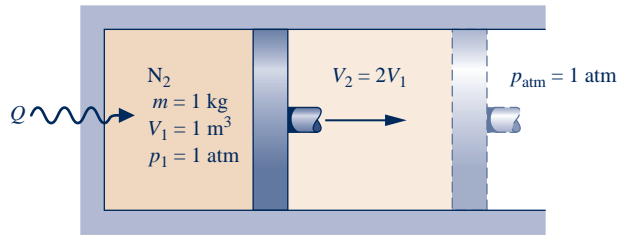

Fig. P3.115
3.115 One kilogram of nitrogen fills the cylinder of a piston–cylinder assembly, as shown in Fig. P3.115. There is no friction between the piston and the cylinder walls, and the surroundings are at 1 atm . The initial volume and pressure in the cylinder are 1 m^3 and 1 atm , respectively. Heat transfer to the nitrogen occurs until the volume is doubled. Determine the heat transfer for the process, in kJ, assuming the specific heat ratio is constant, $k = 1.4$.